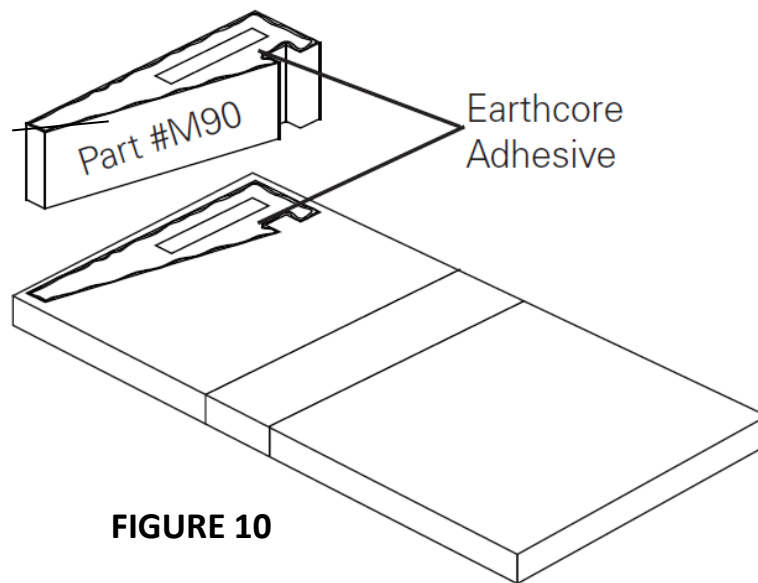

FIGURE 10
- 2) Set the first course of the firebox side walls and back walls into place (**Figure 10**).